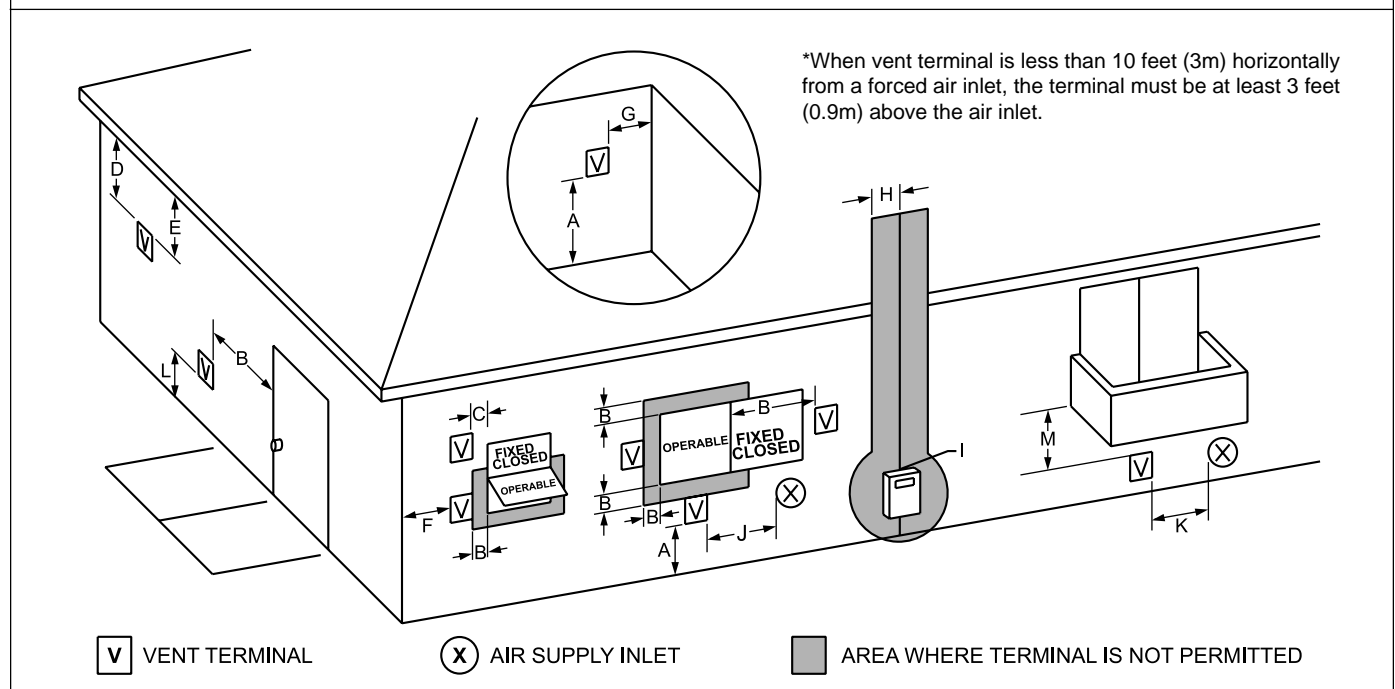

**Figure 8. Minimum Venting Distance.**
6. Vent outlet must be no lower than the center of the air inlet, and must be at least 12" (30cm) away from the air inlet (see Figure 8).